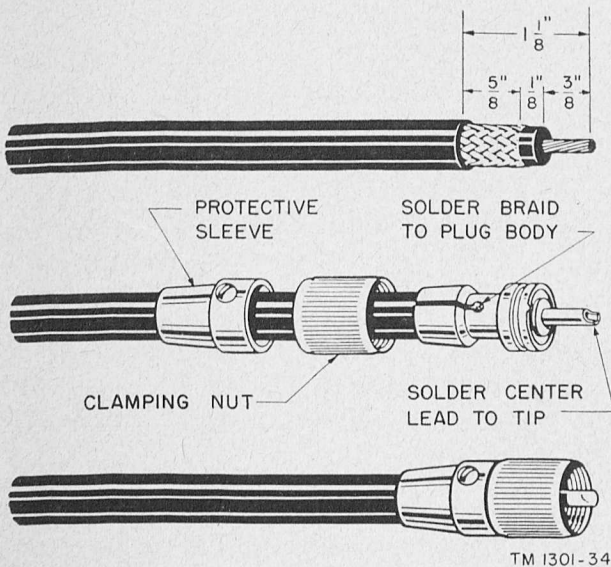

Figure 41. Coaxial connector.
- (1) For connection to Switch Box SA-284/SPN-11, 3-inch leads are required.
- (2) For connections to Switch Box SA-283/SPN-11, 5-inch leads are required.
- (3) The required lead lengths for connections to the ship d-c line must be determined at the time of installation.
i. Coaxial Connectors. To terminate coaxial cables with male connectors refer to figure 41 and follow the instructions given below.
- (1) Loosen the setscrew in the protective sleeve of the connector.
- (2) Rotate the clamping nut to separate it from the body of the connector.
- (3) Slip the protective sleeve and the clamping nut over the end of the cable and push them away from the cable end.
- (4) Cut the outer insulation $1\frac{1}{8}$ inches from the cable end and remove it.
- (5) Cut the copper braid five-eighths inch from the end of the outer insulation. Be careful not to damage the insulation.
- (6) Cut the inner insulation three-eighths